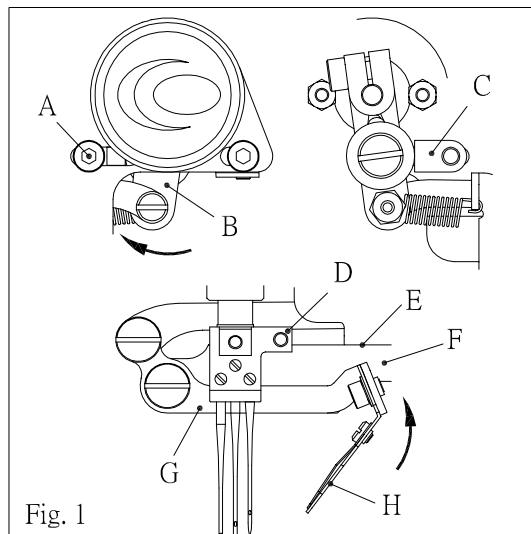
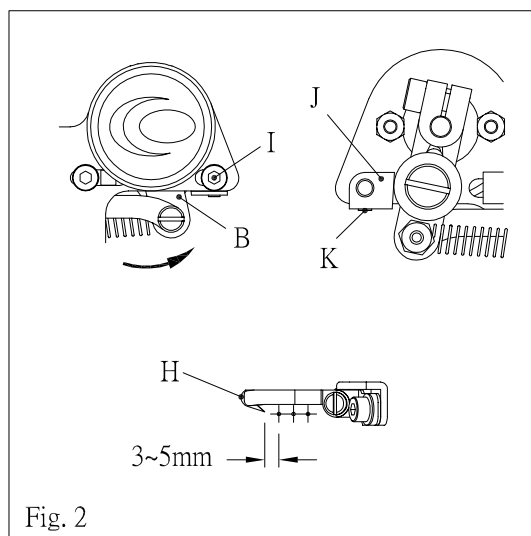
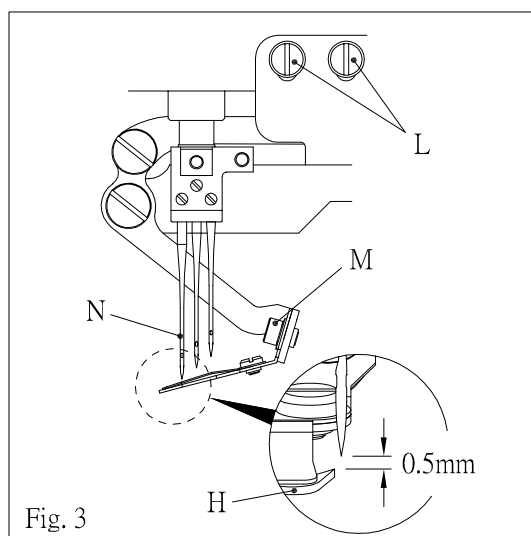

Fig. 1
Fig. 2
Fig. 3
- (2) 調整抓線鉤(H)上死點位置，首先放鬆螺絲(A)，以手擺動驅動臂(B)，使連桿(G)與支架(F)成水平，或依實際需求調整，過程中限動塊(C)須配合定位，最後鎖緊螺絲(A)，調整後連桿(G)與支架邊緣(E)需留有間隙，針留(D)與抓線鉤(H)之間亦是，以避免產生碰撞。(圖1)
Adjusting hook blade (H) to its upper position, by loosening screw (A), set arm (G) parallel with solenoid support (F) by adjusting driving lever (B) and stop block (C), then, tighten screw (A), after such adjustments, please make sure there should have a tolerance between arm (G) and the edge (E) of solenoid support (F), also there should have a tolerance between needle clamp (D) and hook blade (H) in order to avoid any collision among the parts. ( Please refer to figure 1. )
- (3) 調整抓線鉤(H)下死點位置，放鬆螺絲(K)、(I)，擺動驅動臂(B)使抓線鉤(H)與左針中心，左右需有3~5mm的間距，而限動塊(J)須配合定位，接著先後鎖緊螺絲(I)、(K)即可。(圖2)
Adjusting hook blade (H) lowest position, by loosening screw (K) and (I), setting hook blade (H) passed over 3~5mm from the center of leftest needle, by moving driving lever (B) and stop block (J), then, tighten screw (I) and (K). ( Please refer to figure 2. )
- (4) 當抓線鉤(H)至下死點，鉤尖行經左針(N)中心時，兩者上下間距，需有0.5mm，而間距可由螺絲(L)做調整，此外亦可以螺絲(M)作微調，完成後需再檢視第三和第五步驟。(圖3)
There should have 0.5mm tolerance when hook blade (H) passing thru the center of leftest needle (N) to its lowest position, this tolerance can be obtained by adjusting screw (L) and also can be micro-adjusted by screw (M) and after finished the adjustments, need to double check step (3) and step (5). ( Please refer to figure 3. )